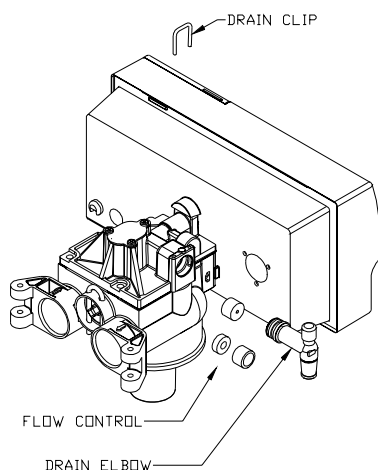

FIG. 4
* Use with flow control spacer provided. Figure 4 shows installation of the flow control with the spacer.
For the backwash flow control conversion, refer to figure 4 and the instructions listed below.
NOTICE: For the 12" Filtr-Cleer, insert the plastic spacer after the 7 gpm flow control washer. See Figure 4.